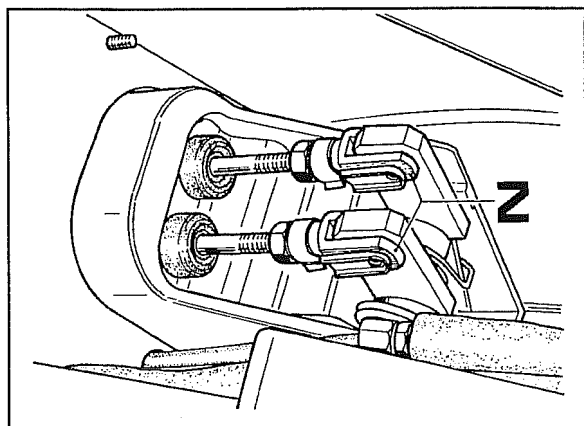

Fig. 7
- d. Disconnect pump push rods from the linkages with forks **Z** Fig.7 and, from the opposite side, remove the screws fixing the pumps to the frame.
- Connect pump push rods to their linkages with forks **Z** Fig.7. Adjust them so that that push rods do not apply any pressure to the linkages.